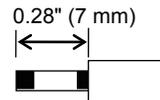

Figure 14. Wire sheath strip length
- 2) Strip the wire sheath. Strip length is 0.28" (7 mm) (See Fig. 14.)
- 2) Strip the wire sheath. Strip length is 0.31" (8 mm). (See Fig. 14.)